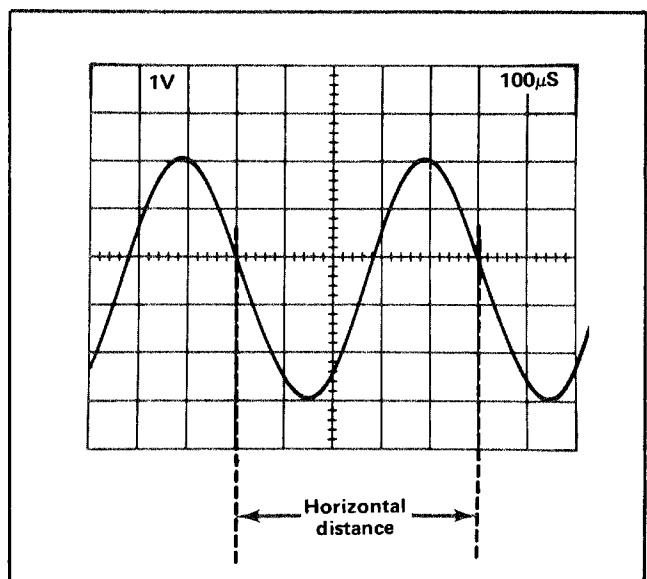

Fig. 1-13. Measuring the time duration between points on a waveform.
**Example.** Assume that the distance between the time measurement points is five divisions (see Fig. 1-13), and the TIME/DIV OR DLY TIME switch is set to .1 ms.
**Example.** The frequency of the signal shown in Fig. 1-13 which has a time period of 0.5 millisecond is: